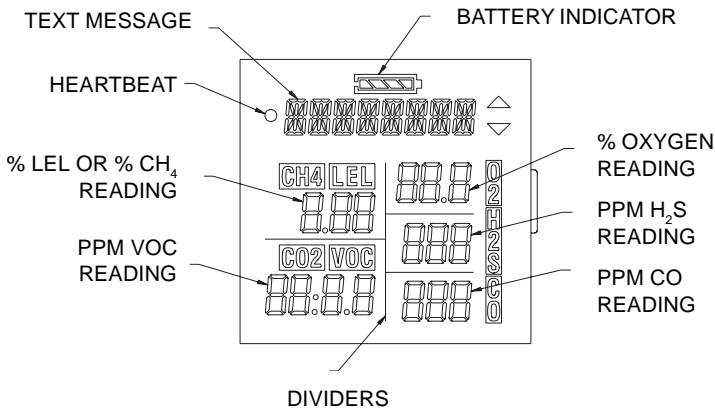

Figure 2:
3.6 Battery Life Indicator (see Figure 2)